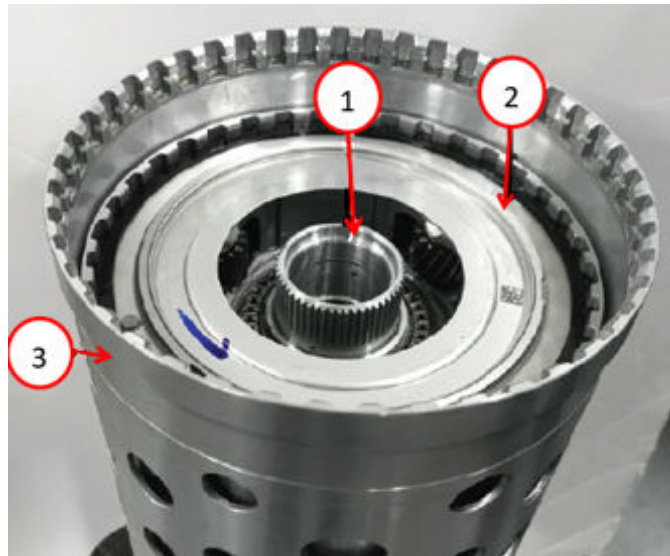

Fig. 25
36. Remove the P2 annulus/P3 sun gear from the drum assembly Fig. 25.